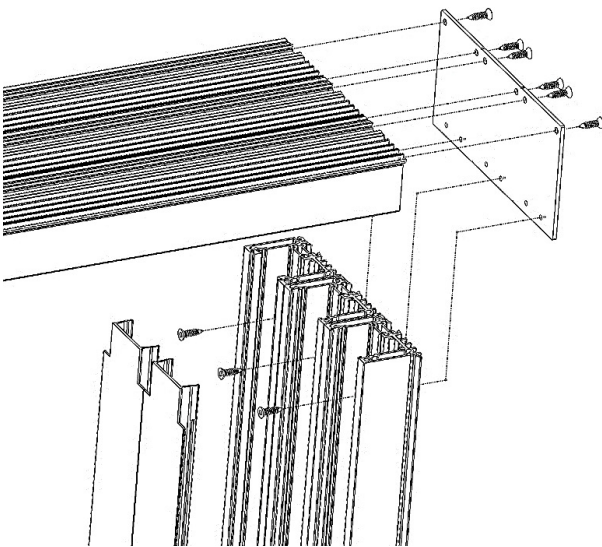

Figure 5
17. On single pocket doors, seal the pre-drilled hole/s in the threshold end plate at the lock jamb side using Dow Corning 795 silicone, or equal. Pre-drill the jamb to the end plate assembly holes at each end and as required with a #21 drill bit. Remove the jamb assembly and seal the jamb to the end plate interface at the sill location with Dow 795 sealant. See **Figures 5 & 6.**